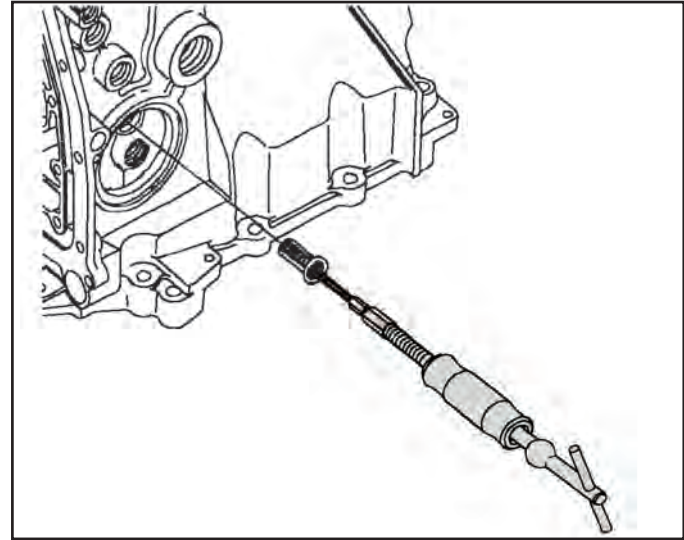

Figure 84
40. Remove the valve by using Saturn's extracting tool SA9103E or equivalent as shown in Figure 84.